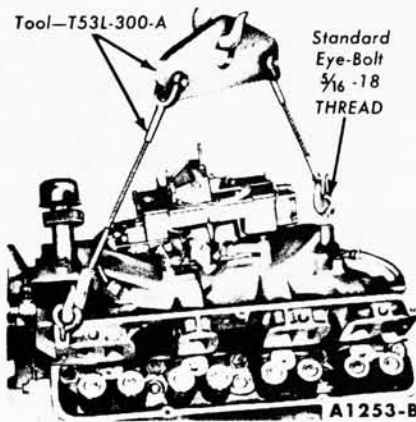

FIG. 29—Intake Manifold Removal or Installation
14. Install standard eye bolts with $\frac{5}{16}$ -18 threads in the left front and right rear rocker arm cover screw holes. Attach the engine lifting sling (Fig. 29).
5. Install the eye bolts in the intake manifold and attach the engine lifting sling and carefully lower the intake manifold on the engine (Fig. 29).